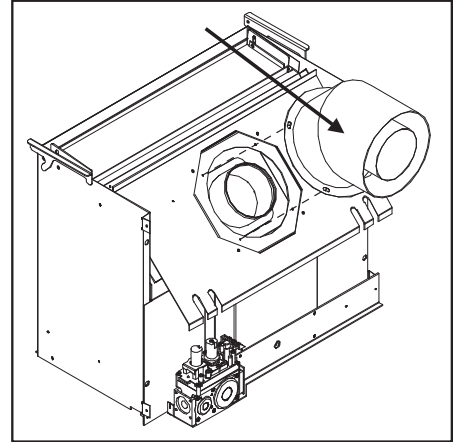

Figure 35: Step 4 of Converting Top Vented into Rear Vented.
4. Turn the elbow to the rear vent position and re-fasten with the screws removed in step 2 (see Figure 35).